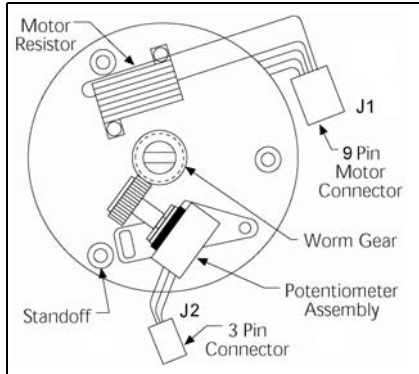

Figure 13. Circuit Board Removed.
3. Compare wire colors of new feedback potentiometer connector to wire colors of old feedback potentiometer connector. When placement of wires is different in stall jumper cable (ordered with new feedback potentiometer) between P2 and J2 (Figure 13).